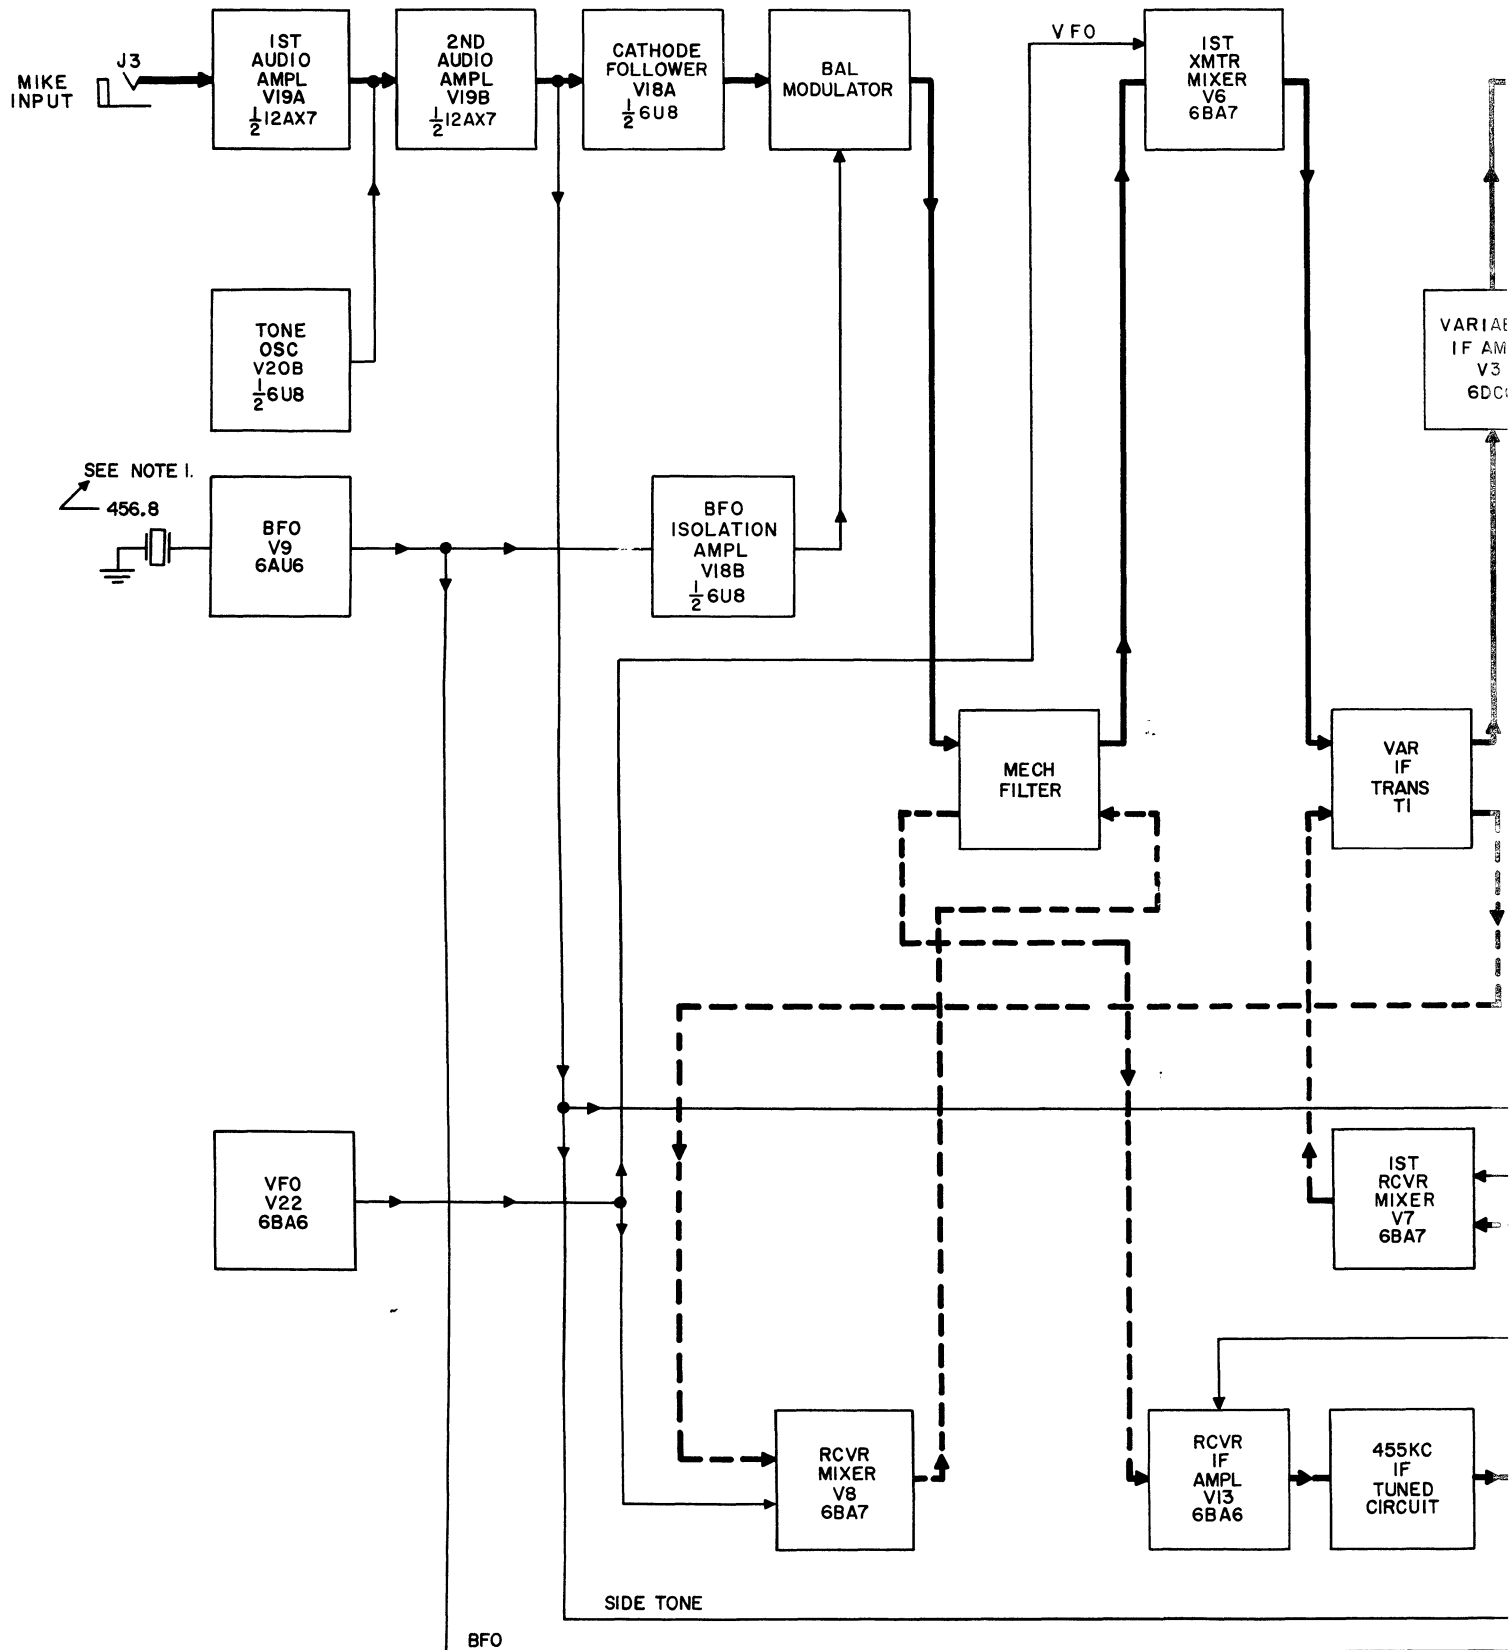

Figure 4-1. Block Diagram
Figure 4-1 is a block diagram of the KWM-1. Transmit signal paths are shown in heavy solid lines, receive signal paths in heavy dashed lines, and control circuits in light dashed lines. Circuit details are shown in figure 8-1.
See figures 4-1 and 8-1. Circuits common to both receive and transmit functions are:
4.3 RECEIVE CIRCUITS. (See figures 4-1 and 8-1.)
4.4 TRANSMIT CIRCUITS. (See figures 4-1 and 8-1.)